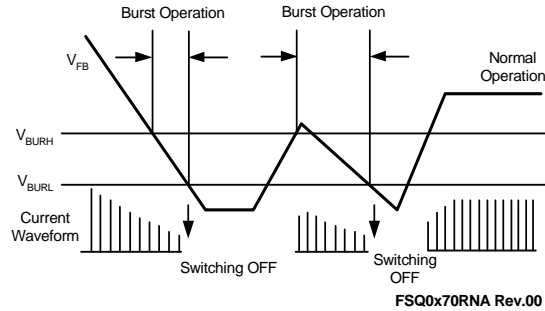

Figure 17. Burst Operation Function
6. Burst Operation: To minimize power dissipation in standby mode, the power switch enters burst-mode operation. Feedback voltage decreases as the load decreases, as shown in Figure 17, and the device automatically enters burst-mode when the feedback voltage drops below V_{BURH} (typically 600mV). Switching continues until the feedback voltage drops below V_{BURL} (typically 400mV).